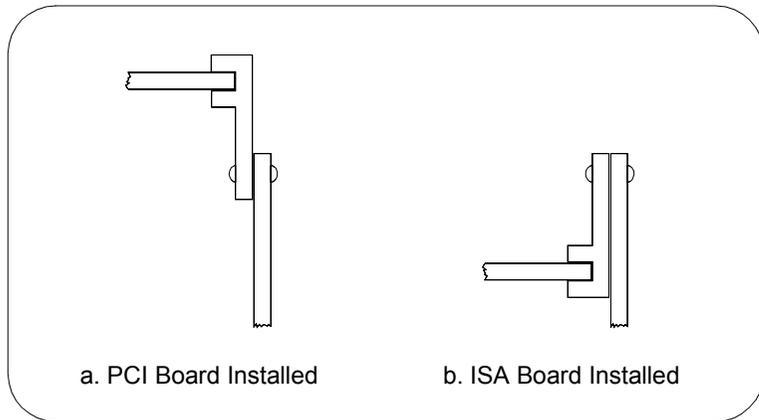

Figure 6-5. PCA and ISA Card Guide Positions
- 2 The E985xA includes a card guide that can be rotated to secure the top of a PCI or an ISA plug-in card, if the card is long enough to extend to the guide. Loosen the screw holding the guide and rotate the guide to the uppermost position for PCI cards or the lowermost position for ISA cards. See Figure 6-5.